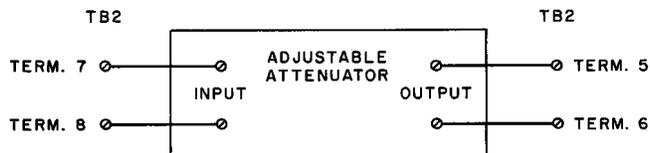

Fig. 3 — Attenuator Connection with Relay Operation
installation. Where the relay is to be operated, which will be the case in which a telephone set or remote control of the data and talk modes is used, connect the attenuator as shown in Fig. 3.
(3) The delay and attenuation equalizer board should be in the data set if the installation requires it.
(4) Telephone line remains disconnected.
(5) Set switch S1 to TEST.
(6) Set switch S2 to MARK.
(7) Operate data key on telephone set with handset off hook if attenuator is connected as in Fig. 3.
(8) Set 903 data test controls as follows: